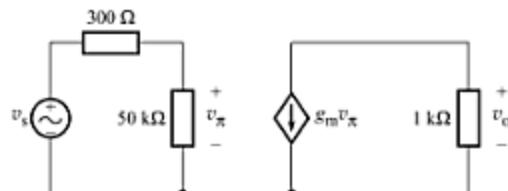

Fig. A-116
- A-83. In the circuit of Fig. A-116, if  $g_m = 25 \times 10^{-3} \text{ S}$  and  $v_s = 10 \cos 5t \text{ mV}$ , find  $v_o(t)$ .